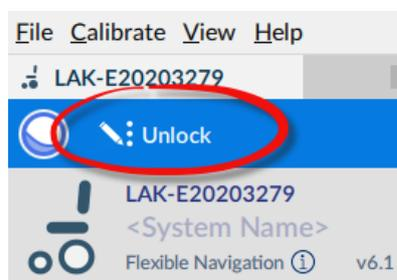

Figure 17: Unlocking bulk edit #1
1. Click on the **Unlock** button located at the top-left of the screen – *Figure 17*.